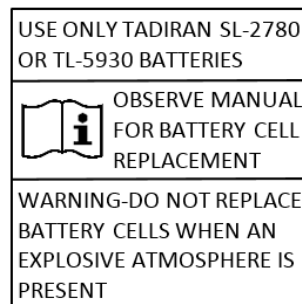

Figure 5-1: Battery pack warning label
- are designed for battery cell replacement. They will contain the label depicted in Figure 5-1. Battery packs without this label may not be opened.